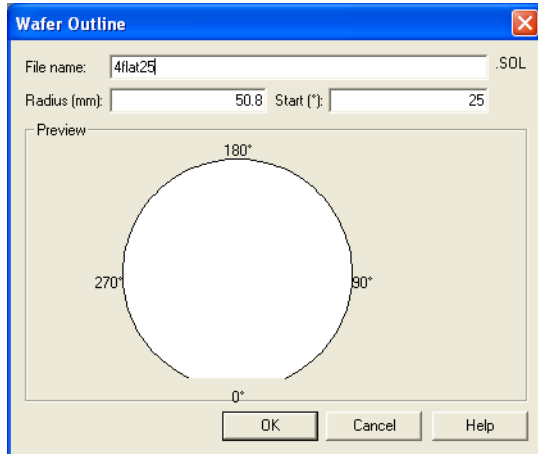

Figure 4-11: The Wafer Outline Window
- Enter “25” as the “Start” - the window should be as in Figure 4-11.